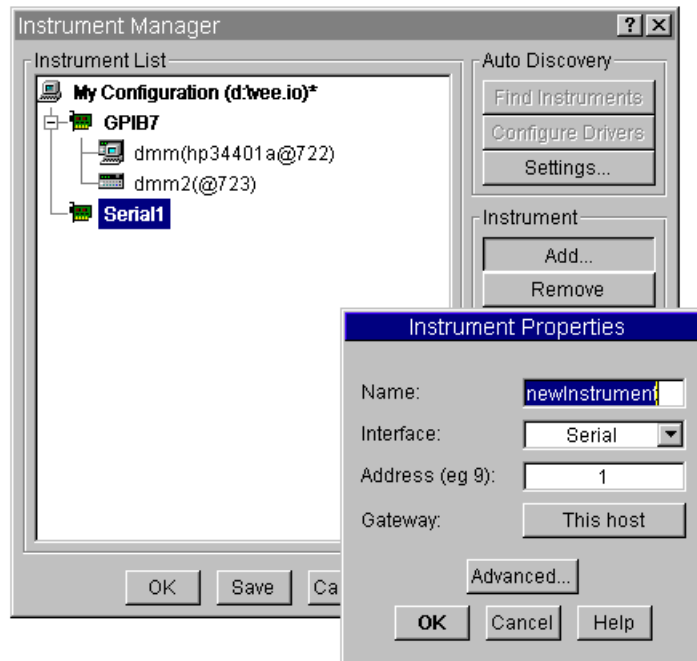

Figure 3-19. Configuring a Serial Device
4. You should see the dialog box shown in Figure 3-19.